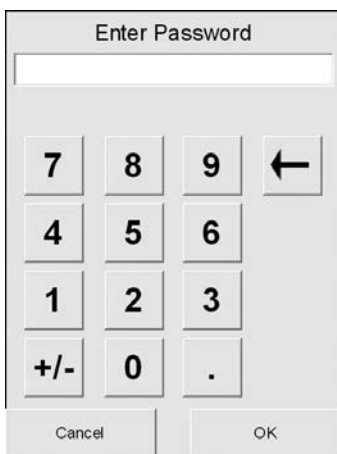

Fig. 2-14 Enter Password
- Use the numeric keypad to enter the password (factory default 404) (Fig. 2-14).